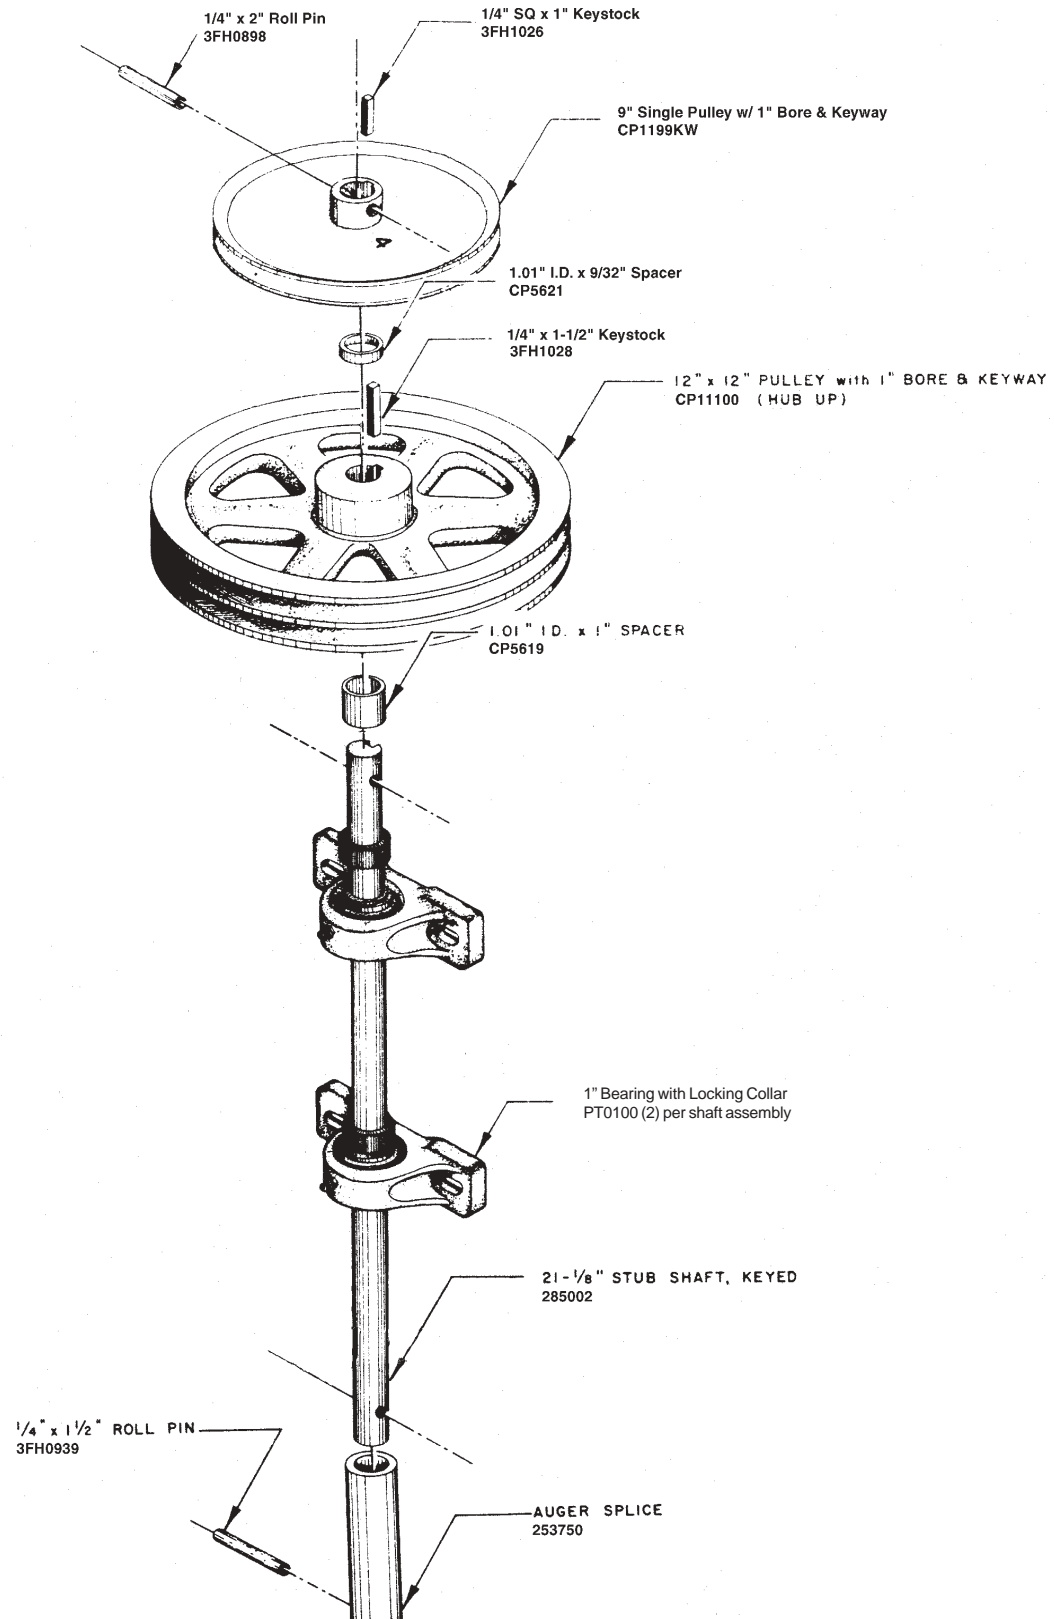

Figure 4-4 Stub Auger Assembly No. 4 (280004)
2. For your convenience the pulley, bearing, vertical drive spacers and sensing devices have already been assembled to the stub augers, ready to bolt directly to the beam brackets. The stub auger number should be affixed to the top of the topmost pulley of each assembly. If for some reason the number has come off, compare the auger in question with the other five (5) to determine which one it is.
3. The No. 4 Auger (see Figure 4-4) will always go to the outer drive side of the main motor and the No. 5 Auger (see Figure 4-5) will always go to the center hanger side of the main motor. These Assemblies contain the double 12" cast motor belt pulleys.